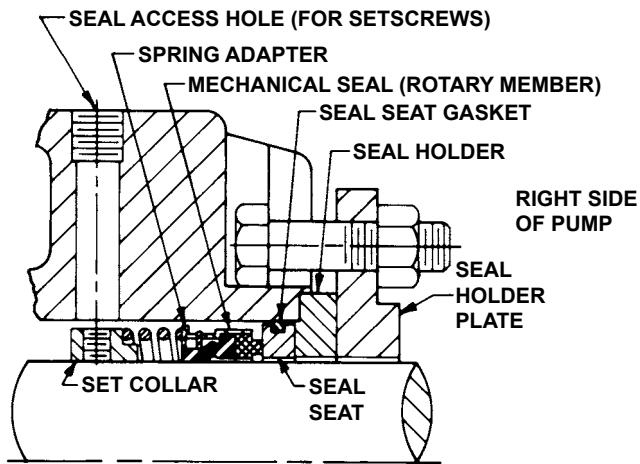

FIGURE 6 - STANDARD MECHANICAL SEAL
4. Standard Mechanical Seal (synthetic rubber bellows type) uses a set collar behind the seal spring. Two setscrews must be loosened before shaft can be removed. Access to collar setscrews is through seal access hole on right hand side of mounting bracket (viewed from shaft end, **Refer to Figure 6.**)